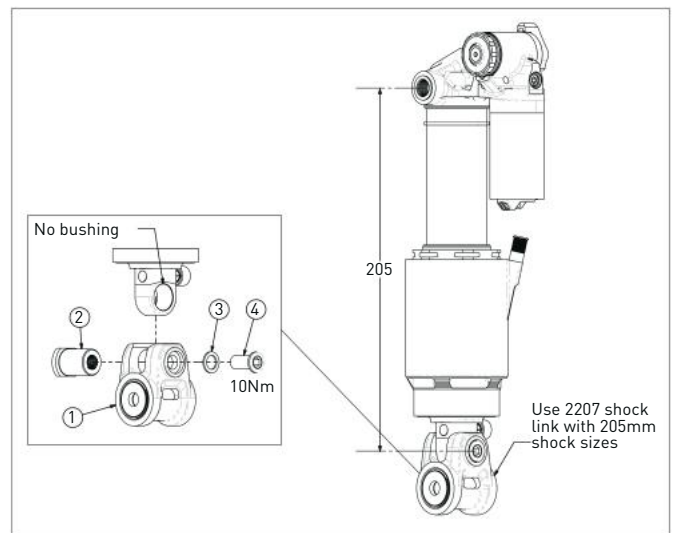

Figure 1
6. If the new or serviced rear shock is of a 205mm size, pre-assemble the 2207 shock link assembly to the rear shock (Fig. 1). Do NOT tighten to shock fixing bolt [4] yet, this is done after the assembly is fitted in the frame.
8. Install the new rear shock/ rear shock + link assembly into the frame, loosely threading first the upper two trunnion bolts and secondly the lower flip chip hardware. Once all the hardware is loosely threaded, tighten first the upper two trunnion bolts (torque to specification in 3768 instructions), then the lower flip chip pin (torque to specification in 3744 instruction) and lastly the shock link fixing bolt (4 of Fig. 1) to 10Nm (if present).